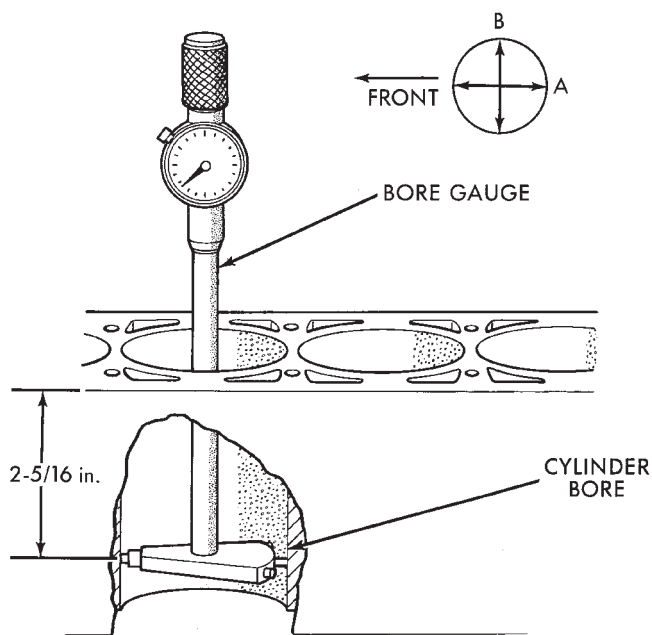

Fig. 8 Bore Gauge
(1) To correctly select the proper size piston, a cylinder bore gauge, Special Tool 6879 or equivalent, capable of reading in .0001" INCREMENTS with gauge ring Special Tool 6884 is required. If a bore gauge is not available, do not use an inside micrometer.
(2) Set the bore gauge to the gauge ring and zero gauge.
(3) Remove gauge from ring and check cylinder as shown in (Fig. 8) bore and record reading.